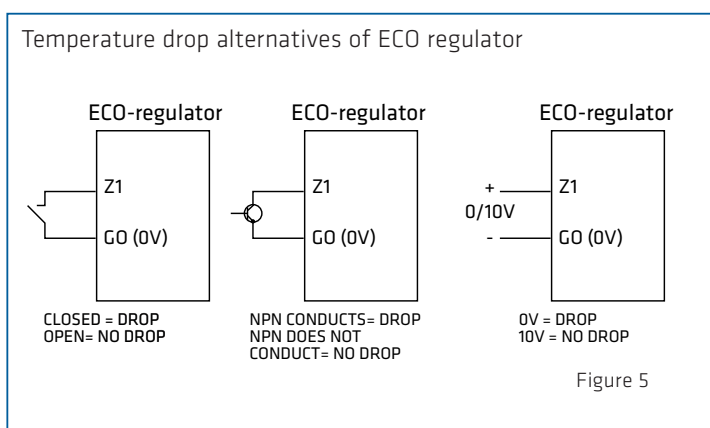

Figure 5
4. You can activate temperature drop function by connecting terminals Z1 and G0 in the regulator as shown on figure 5.
5. If the temperature drop function is taken into use, connect it as shown on Figure 5.